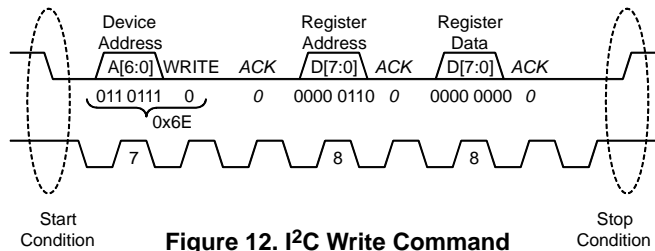

Figure 12. I²C Write Command
Figure 12 shows an I²C write operation. Write transactions begin with the master sending an I²C start sequence followed by the seven bit slave address (NOA2301W = 0x37) and the write(0) command bit. The NOA2301W will acknowledge this byte transfer with an appropriate ACK. Next the master will send the 8 bit register address to be written to. Again the NOA2301W will acknowledge reception with an ACK. Finally, the master will begin sending 8 bit data segment(s) to be written to the